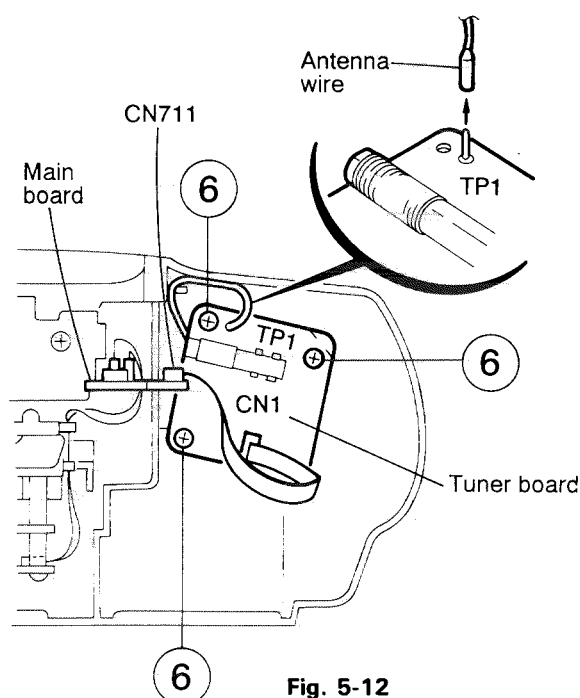

Fig. 5-12
■ Removing the tuner board (See Fig. 5-12)
4. Remove the three screws (6) retaining the tuner board.